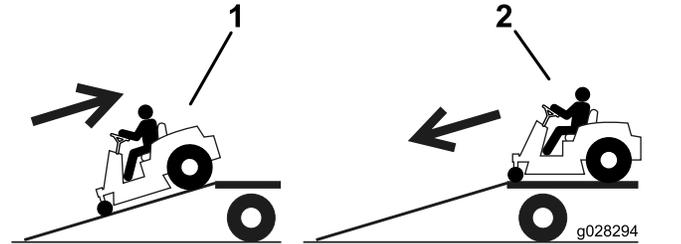

Figure 28
2. Drive the machine forward down the ramp (Figure 28).